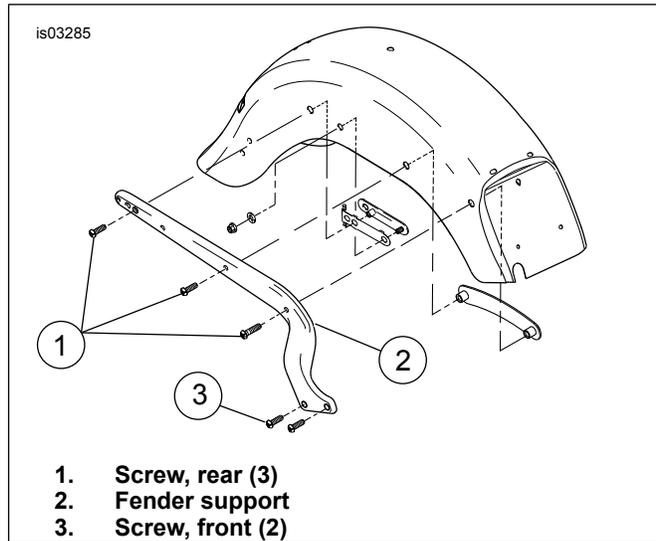

Figure 5. Fender Support Screws and Fender Support
1. See Figure 5. Remove three rear screws (1) from fender support (2).
2. Loosen, but do not remove two front screws (3) from fender support.
1. See Figure 5. Install one rear screw (1) to hold fender support in place while routing wiring. Install screw snug but do not fully tighten.